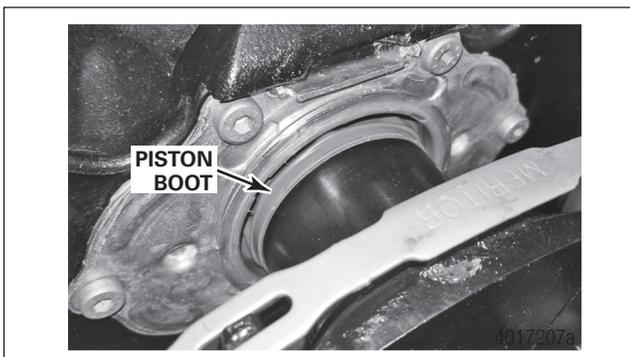

Fig. 6.17 Piston Boot
- Inspect to see if boot properly seated. Check for rips, tears or holes. Figure 6.17.